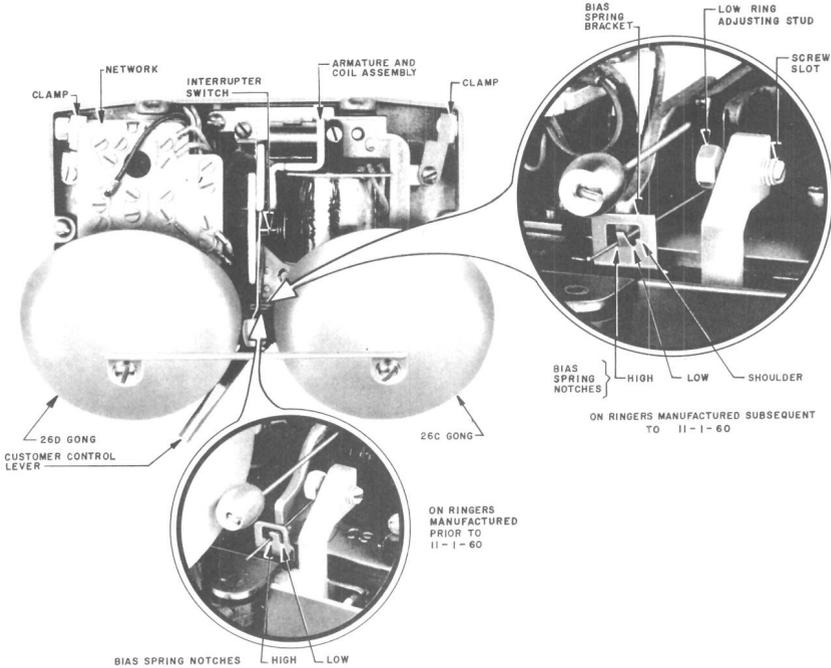

FIGURE 3. F1A Ringer, Components
- 2.01 The F1A ringer is installed when covered by a contact memo (see Fig. 3). Typical installations include:
- 3.01 The F1A is a single coil, high impedance ringer with 2-position bias spring. The component parts, shown in Fig. 3, are:
CAUTION: *On earlier models of the FIA ringer, the interrupter switch assembly was not mounted separately. Loosening the left clamp screw may allow the component plate to shift, changing the position of the interrupter switch. On later models of the FIA ringer (Fig.3), the rack arm may become displaced from under the 26C gong plate preventing movement of the ringer control lever to the LOUD or CHIME position. Use care to prevent these conditions when loosening the left clamp screw and fully tighten clamp screw when the set cord is installed.*
- 4.07 Adjust volume of low ring by moving adjusting stud (Fig. 3) right or left; use a small screwdriver in slotted end located beneath right gong. Be sure that rack arm does not snag on gong plate.
- 5.01 The ringer is shipped with bias spring in loud (left) notch. Table 1 indicates proper position of bias spring for various classes of service. (See Fig. 3.)
- 5.03 The biasing spring bracket has been changed on later models of the FIA ringer. (See Fig. 3.)